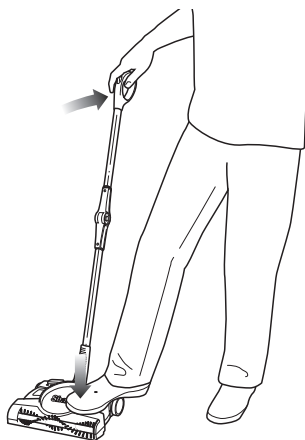

Fig. 2
- 2 Pull back on the handle and press lightly on the body of the unit with your foot to engage the steering. (fig. 2)